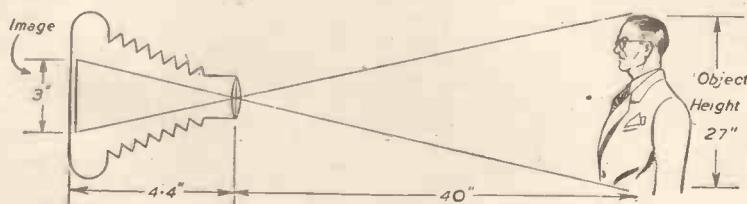
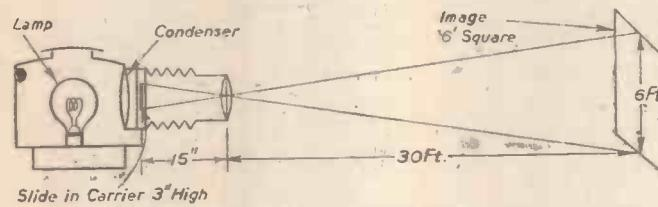

Fig. 7.—Taking a portrait. How the image is formed.
Fig. 8.—Characteristics of an optical lantern.
A head and shoulders 27in. in height will go in nicely in the vertical position (Fig. 7). (2) I am buying an optical lantern to use in a hall 30ft. long. What must be the focal length of the projection lens if I want a picture on the screen about 6ft. square. The object is a slide with a picture size of 3in. square (Fig. 8).